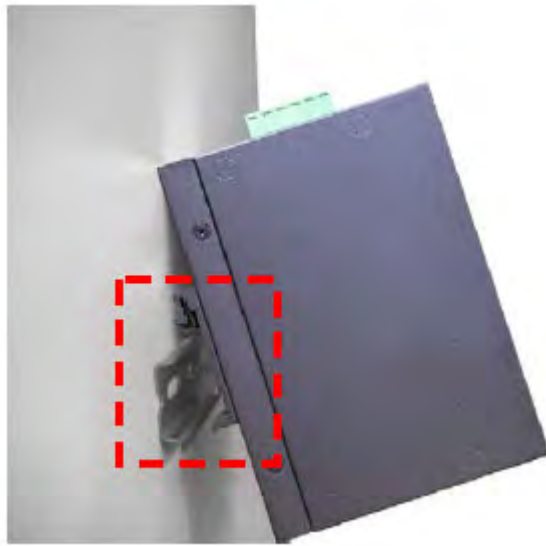

FIGURE 3-2 Push the chassis down onto the upper DIN-Rail track
4. Lightly push the chassis down onto the upper DIN-Rail track until the bottom of the chassis can swing back toward the wall and under the bottom DIN-Rail track. See Figure 3-2.